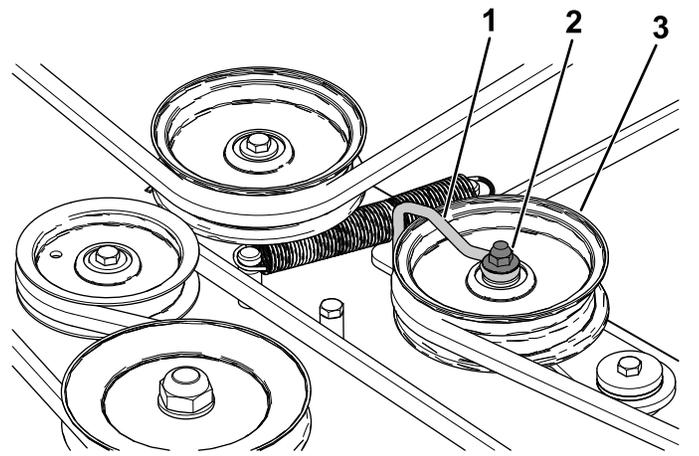

Figure 52
5. Loosen the nut securing the wire form to the idler pulley (Figure 52).
9. Tighten the nut securing the wire form to the idler pulley (Figure 52).
Note: Position the wireform against the idler arm as shown in Figure 52.